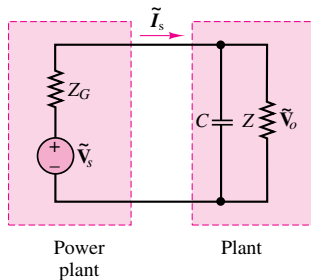

Figure P7.25
- 7.25** Determine  $C$  so that the plant power factor of Figure P7.25 is corrected to 1; that is,  $\tilde{\mathbf{I}}_s$  is minimized and in phase with  $\tilde{\mathbf{V}}_o$ .
- 7.26** Determine  $C$  so that the plant power factor of Figure P7.25 is corrected to 1 (or the power factor angle to zero) so that  $\tilde{\mathbf{I}}_s$  is minimized and in phase with  $\tilde{\mathbf{V}}_o$ .
- 7.27** Without the capacitor connected into the circuit of Figure P7.25,